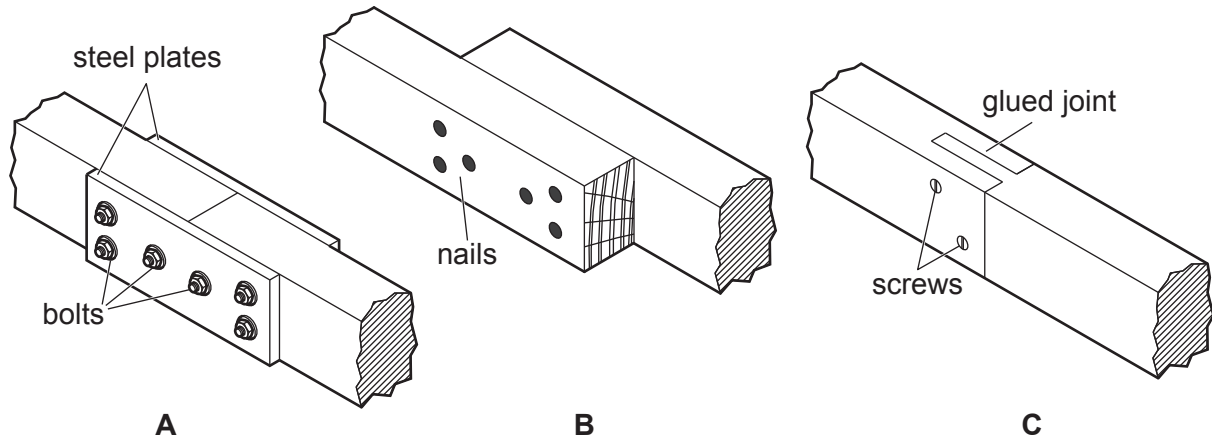

Fig. 10.2
- (b) Fig. 10.2 shows three methods of joining lengths of timber.